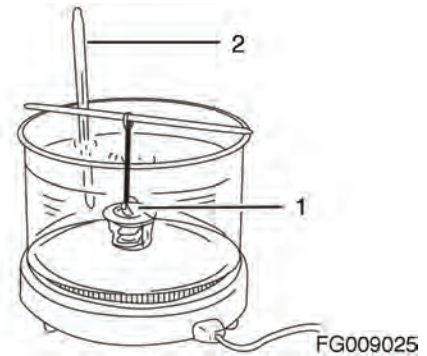

Figure 312
1. Check for proper operation of the thermostat. Place the thermostat (1, Figure 312) and an accurate thermometer (2, Figure 312) in warm water.
1. Check for proper operation of the radiator cap. Install the radiator cap (1, Figure 312) on a cooling system tester.